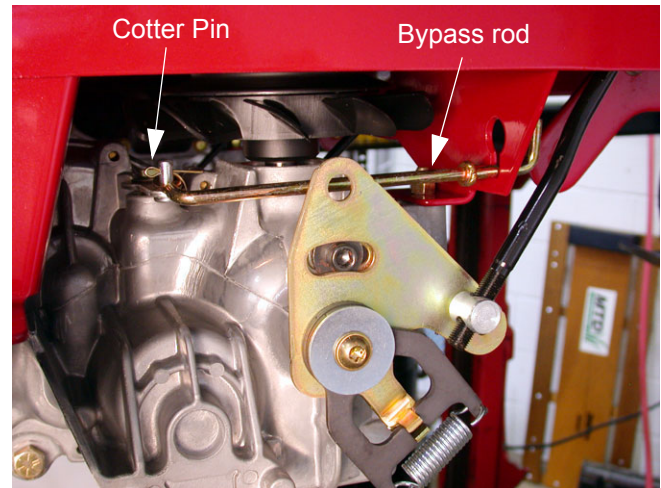

Figure 9.5
- 9.5. Remove the cotter pin securing the bypass rod to the transmission bypass arm. Remove the bypass rod. See Figure 9.5.